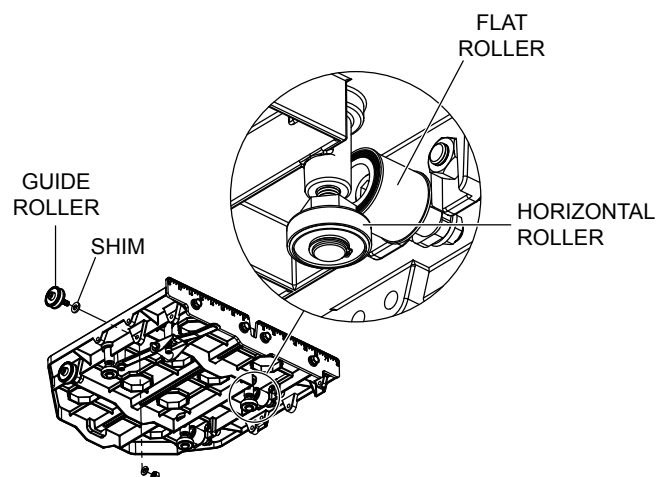

Figure 28. Add Shims
3. If the table shifts to the right as it travels away from the user, a shim needs to be added to the guide roller furthest from the ruler guide. On the other hand, if the table shifts to the left, a shim needs to be added to the guide roller closest to the ruler guide. Remove the appropriate guide roller to insert a shim between the roller and table, then reattach. See Figure 28. Depending on the severity of the shift, more than one shim may be required.